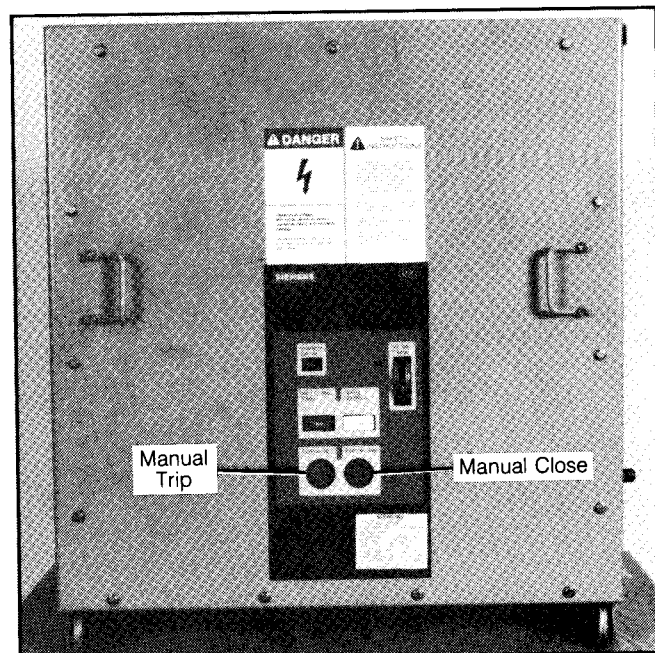

Figure 2. Standard Front Panel of Circuit Breaker.
5. Use the Close and Trip controls (See **Figure 2**) to first Close and the Open the circuit breaker contacts. Verify contact positions visually.